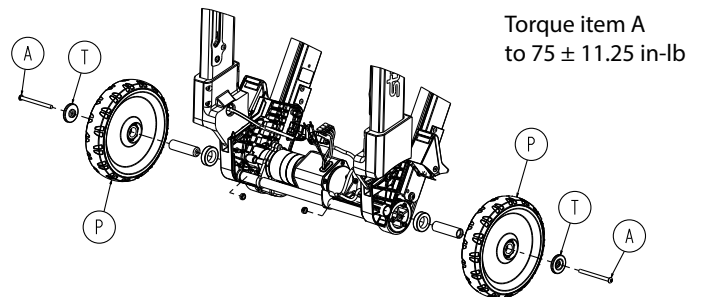

Figure 41 – Remove the back wheel assembly components
7. Using a ratchet and a 5/32" hex wrench, remove the button head cap screw (A) and back wheel cap (T) that secure the back wheel assembly (P) to the chair frame (Figure 41). Save all parts.